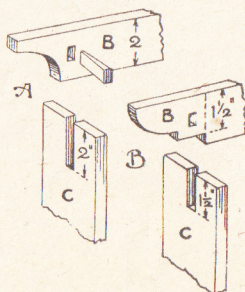
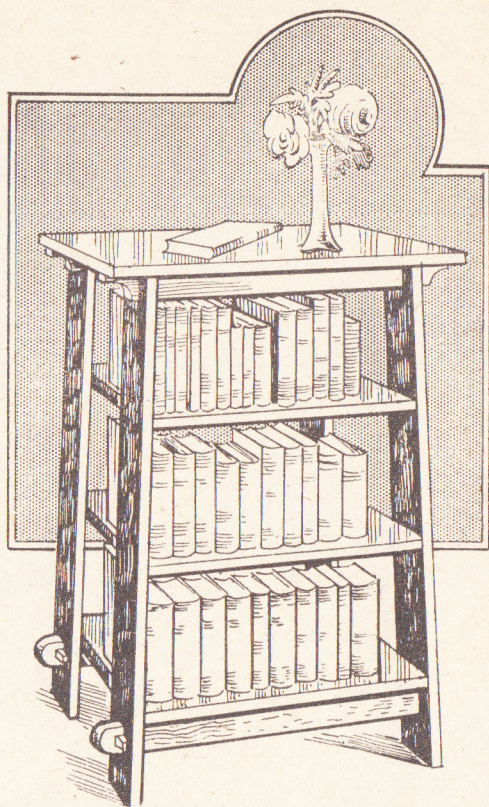

Fig. 3—Details of joints
Fig. 1—An attractive and useful piece of furniture
At (A) the rails (B) are simply let into the tops of (C) their whole width, while at (B), in the same figure, a shoulder is formed on the rail (B) which comes hard up against the uprights, making for a good tight joint when the wedges are inserted and knocked in. The lower mortises are cut 2½ins. up from the extreme ends of the uprights, and are 2ins. long by, of course, ½in. wide. The slots at the top of the uprights are 2ins. deep by ½in. wide, excepting those shown in method (B), Fig. 3, which are 1½ins. deep.
The rails (G) have rounded ends as shown, cut carefully to a semi-circle with the fret-saw at a centre distance of 1½ins. in from each end. There are small openings cut, as seen in Fig. 3, to take the shallow-cut wedges which pull the joints well together after they are glued up. The openings for the wedges in rail (G) are clearly seen in Fig. 1—front view. In Fig. 3, at method (A) the wedge is seen just before entering its cut-out hole.